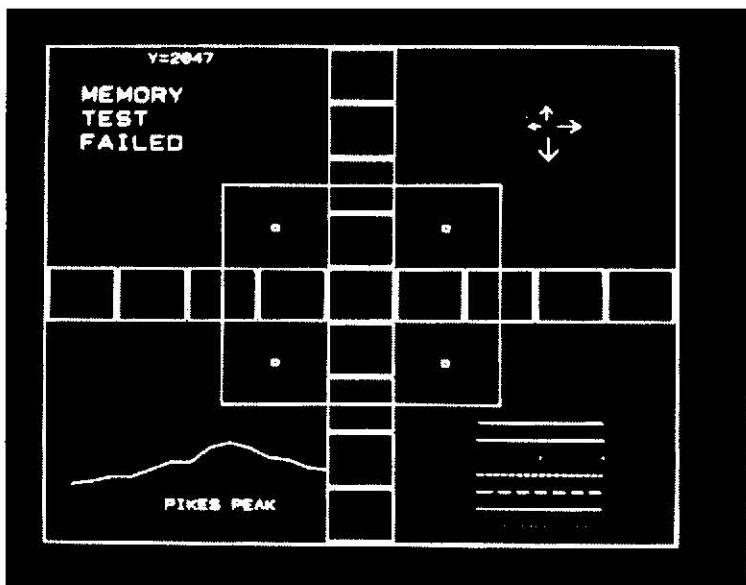

Figure 4-5. Memory Test Fail
- f. If Option 704 is installed, the performance test will verify correct operation automatically. If the memory circuit is defective the display shown in figure 4-5 will appear.